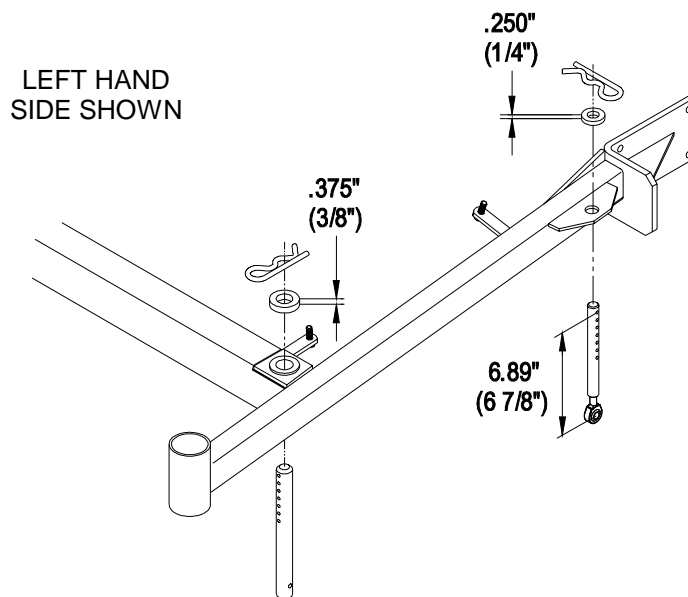

FIGURE 7
1. The front and rear hairpins are in the same holes with the proper spacers under the hair pins (See Figure 7).
3. The length of the rear deck support link assemblies are set to 6.89” (approximately 6 7/8”) from the center of the balljoint to the center of the farthest hole (See Figure 7).